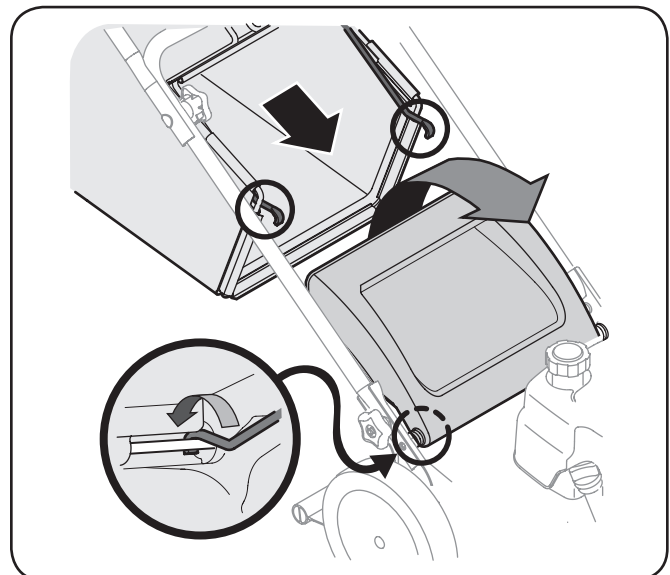

Figure 3-6
- b. Place grass catcher on the pivot rod. Let go of discharge door so that it rests on the grass catcher. See Figure 3-6.